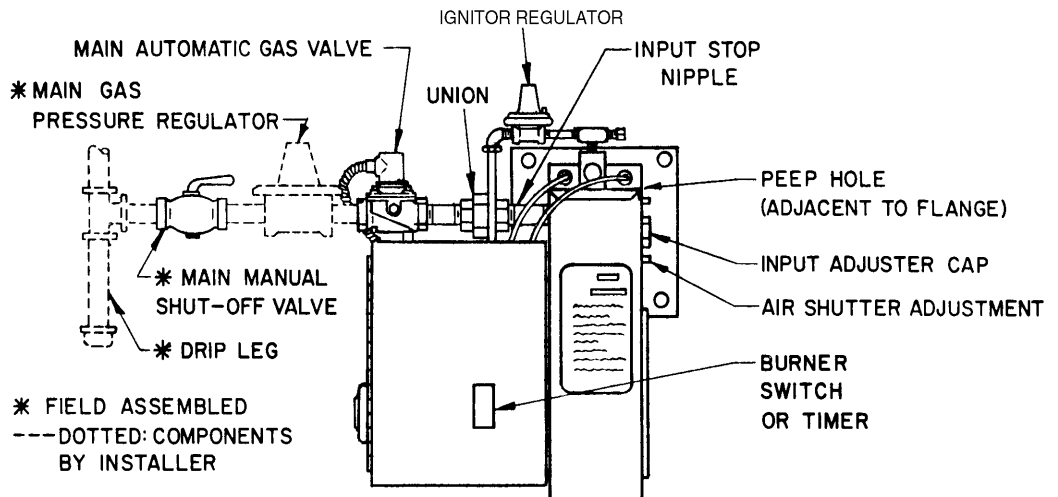

Figure 2: Control Components
- Use pipe joint compound resistant to liquid petroleum gases when using either NATURAL or PROPANE gas. Piping must comply with the local and national codes. If the burner piping must be rearranged because of space limitations, be sure to carry out the general configuration shown in Figure 2.